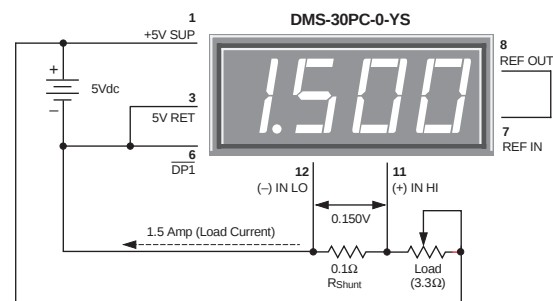

Figure 9. Basic DC Ammeter Circuit
- 7. Digital Ammeter:** Digital ammeters are finding ever-increasing usage because analog-style ammeters (moving-vane types) now cost roughly the same as their digital counterparts. Additionally, analog ammeters are not nearly as rugged as modern digital panel voltmeters. Figure 9 illustrates a typical ammeter application. The circuit uses a  $\pm 200mV$  input meter — the preferred range for most ammeters — to measure the voltage developed across a  $0.1\Omega$  current shunt. The circuit shown represents a basic ammeter connection diagram. A detailed application note describing digital dc ammeters is included in DATEL's new Digital Panel Meter Databook.